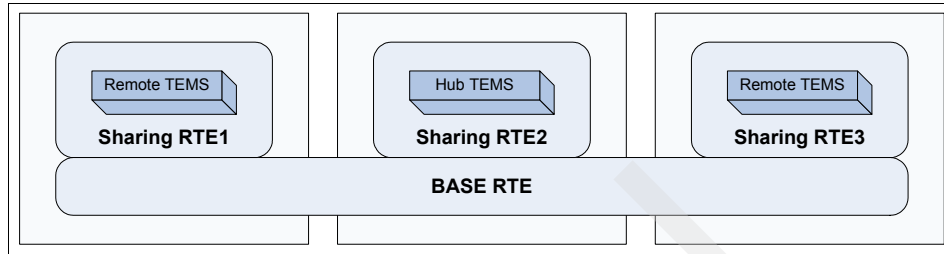

Figure 3-1 Standard base and sharing RTEs
- Sharing RTEs with a base RTE library for a standard sysplex is the most common scenario, and we use it in 3.3, “Configuring IBM Tivoli OMEGAMON XE” on page 50. One of the sharing RTEs is designated to be the hub Tivoli Enterprise Monitoring Server, while other members of the sharing RTEs are used as remote Tivoli Enterprise Monitoring Server. Figure 3-1 on page 46 depicts this RTE configuration.